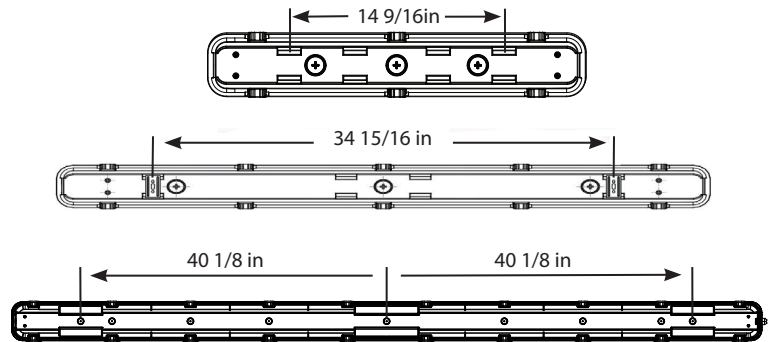
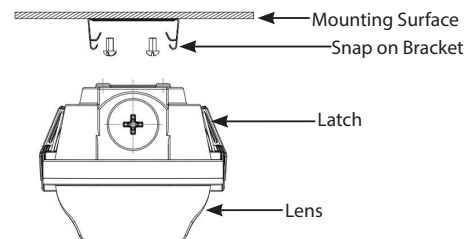
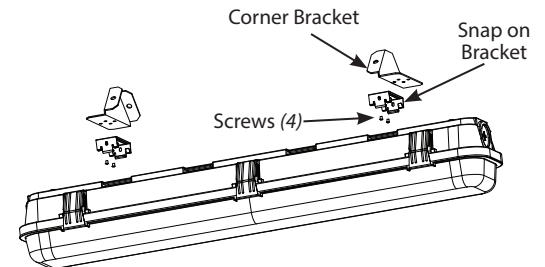

Fig: 1
Fig: 3
Fig: 5
1. Use appropriate mounting hardware (*not supplied*) to secure the **Snap on Brackets** to mounting surface. Refer to recommended **Snap on Bracket** spacing in Fig. 1 for 2ft and 4ft & 8ft. **WARNING: Mount Snap on Brackets symmetrical about the center as shown in Fig. 1. Snap on Brackets must be aligned with each other to secure Housing.**
8. Snap **Housing** on **Snap on Brackets** as shown in Fig. 3.
1. Snap **Housing** on **Snap on Brackets** as shown in Fig. 3.
Ordered separately - Fig. 5 & 6:
1. Use appropriate mounting hardware (*not provided*) to secure the **Corner Brackets** (2) to the mounting surface as shown in Fig 5. **Corner Brackets** must face towards each other. Recommended **Corner Bracket** distance center to center is 14-13/25" for 2ft and 34-19/20" for 4ft & 8ft.
2. Secure (2) **Snap on Brackets** (*supplied standard with Housing*) to **Corner Brackets** (2) with **Screws** (4 *provided*).
3. Snap **Housing** on **Snap on Brackets** (2) as shown in Fig. 3, Page 1. Ensure that the **Housing** is secure on **Snap on Brackets** (2) onto the grooves on **Lens** as shown in Fig. 1, Page 1.